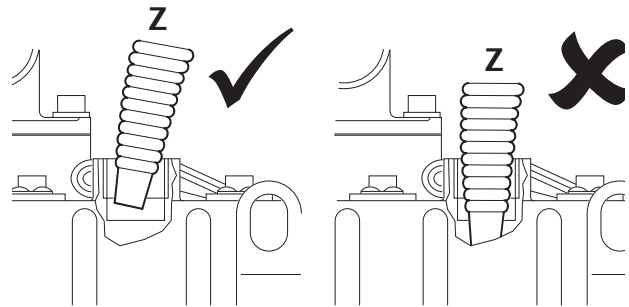

Fig 10.
DO NOT insert the container neck **Z** completely into the filler hole. → Fig 10. \(□ 3-31\). Allow oil to flow down from the remote filler to the crankcase.
- 3 Fill the engine with new oil **slowly** through the filler. DO NOT insert the container neck **Z** completely into the filler hole. → Fig 10. \(□ 3-31\). Allow oil to flow down from the filler to the crankcase. Replace filler cap securely. Use only the recommended oil. → Fluids, Lubricants and Capacities \(□ 3-11\)